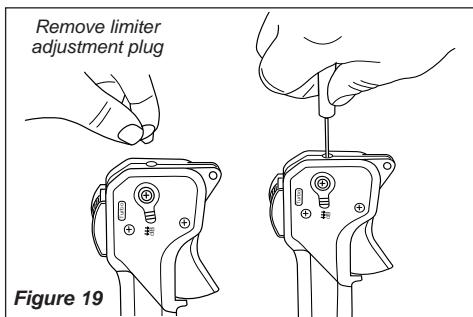

Figure 19
1. Remove the plug located at the top of the throttle assembly. See Figure 19.
2. Move the throttle limiter lever to the “dB” setting. See Figure 19.